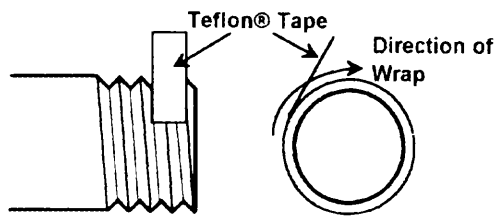

FIGURE 1
- 3) Wrench tighten tailpipes of upper and lower valves to the vessel using Teflon® tape, or equivalent, on all male tapered pipe thread connections as shown in Figure 1. If the valve is flanged or weld mount, use proper industry standard procedures.
LEAKAGE AROUND UNION connections can often be stopped by tightening union coupling nut or remake connection using Teflon® tape, or equivalent, on all male pipe threads as shown in Figure 1